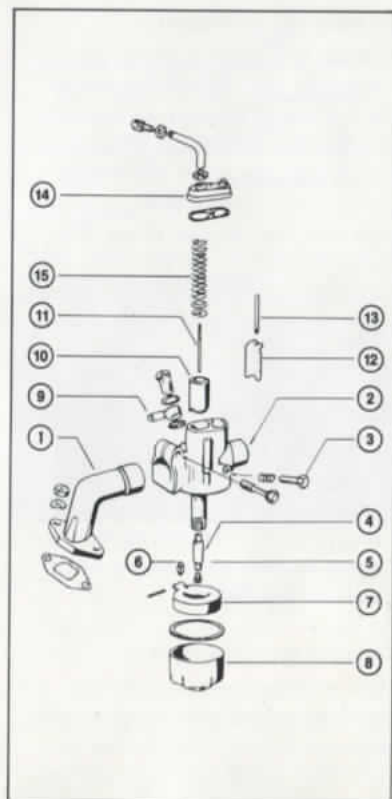

Fig. 21
- i) Unscrew the main jet (fig. 21/5) being screwed in the needle jet (fig. 21/4) and clean by blowing through or by using a stiff bristle. Never use a piece of wire. Also unscrew needle jet and clean.
j) Clean the float chamber (fig. 21/8) with gasoline.
Exploded view of the carburetor (see fig. 21).